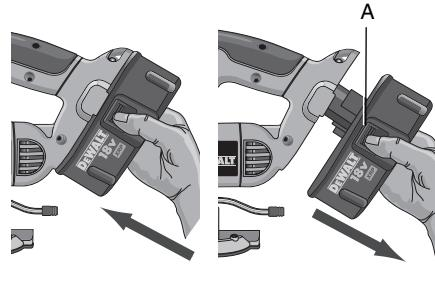

FIG. 6
The lock button (D) should be depressed whenever the tool is not in use to eliminate the chance of accidental starting (Fig. 6).